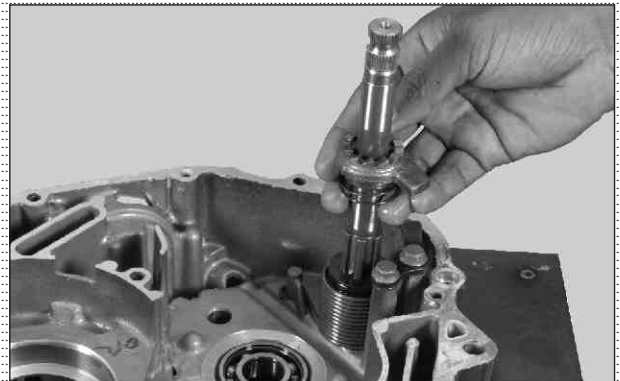

Fig. 3.174
- Assemble spring kick starter and starter kick in shaft kick starter assembly. (Fig. 3.174)